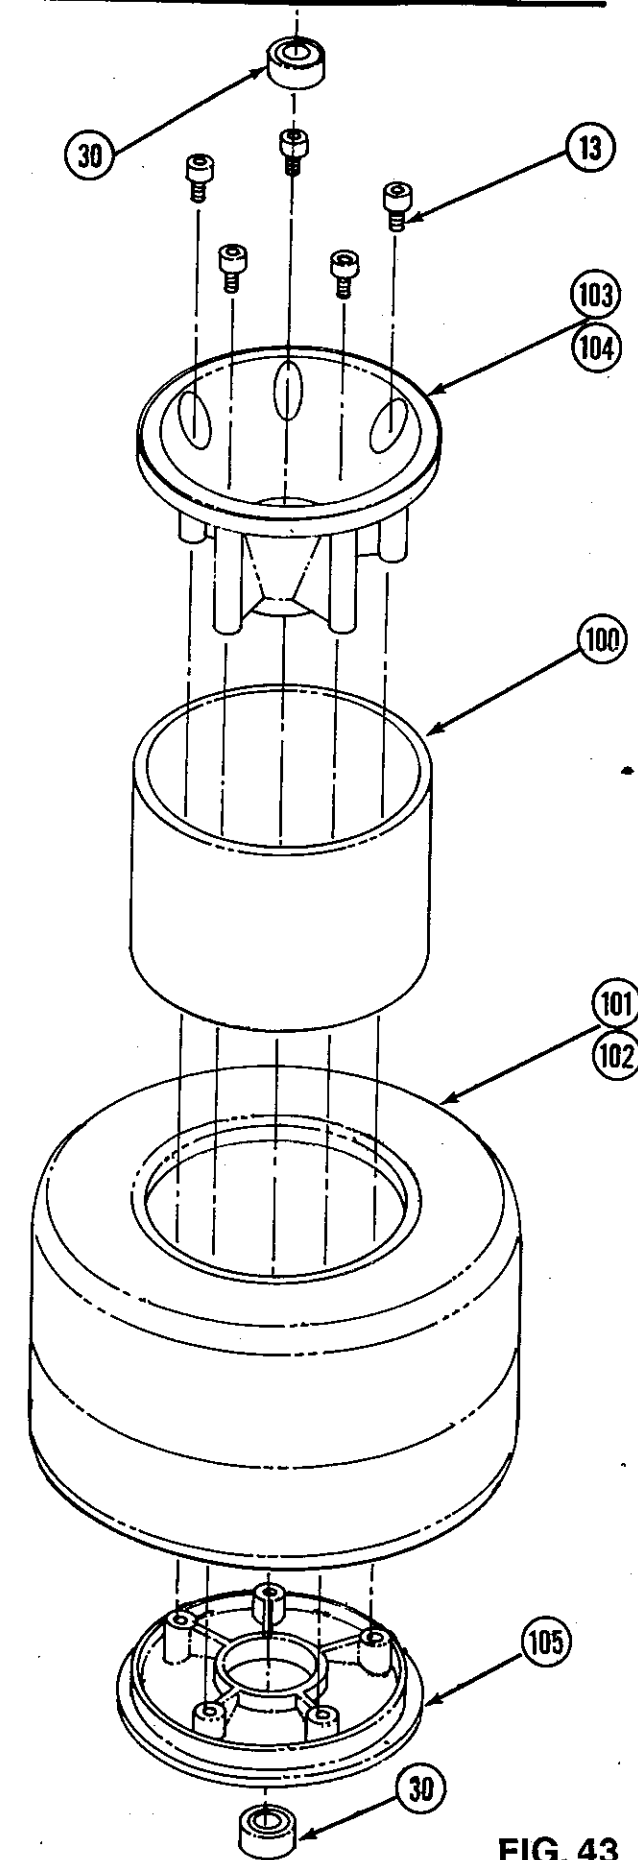

FIG. 43
1. Insert the wheel ring (100) inside the tire (Front 101, Rear 102) being sure that it seats evenly around the inside bead of the tire. Fig 43.
2. Press the outside wheel half (Front 103, Rear 104) into the tire. The bead of the tire should sit on the bead flange of the outside wheel half so it will be pinched between the wheel ring (100) and the flange of the outside wheel half (103, 104). This can be accomplished by pulling up on the side wall and working around the tire until the bead is completely seated. Water may aid in this operation. Fig 43.
3. Place the tire and outside wheel half (103, 104) face down. Insert the inside wheel half (105) into the tire and align the locating mark (small line) on the hub of the outside wheel half (103, 104). Hold the tire up to the light. While looking down the assembly holes of the outside wheel half (Front 103, Rear 104) align with the holes of the inside wheel half (105) and press rim halves together. Fig 43.
4. Set the tire bead around the bead flange of the inside wheel half exercising care not to lose alignment. Fig 43.
\* NOTE: Gradually tighten in an alternating pattern to apply even torque. Fig 43.
6. Press two 3/16" x 3/8" bearings (30) into each front wheel assembly. Fig 43.
7. Secure front wheels on axles using #10-32 nylon nuts (118). Tighten nuts but do not bind wheels.
8. Secure rear wheels on axle assemblies making sure drive pins are engaged in wheels and secure with #10-32 nylon nuts (118). Fig 43.